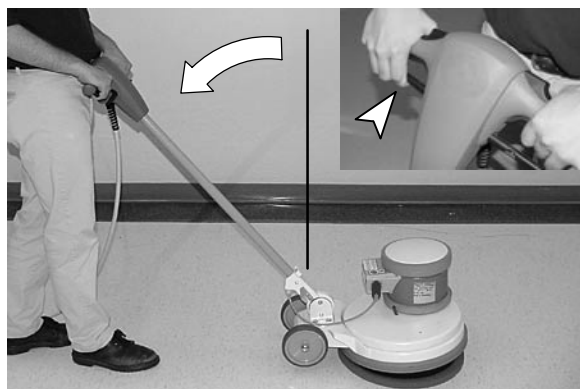

FIG. 9
2. Lower the handle to a desired operating height by pulling the handle height adjustment lever. Release lever to engage handle (Figure 9).